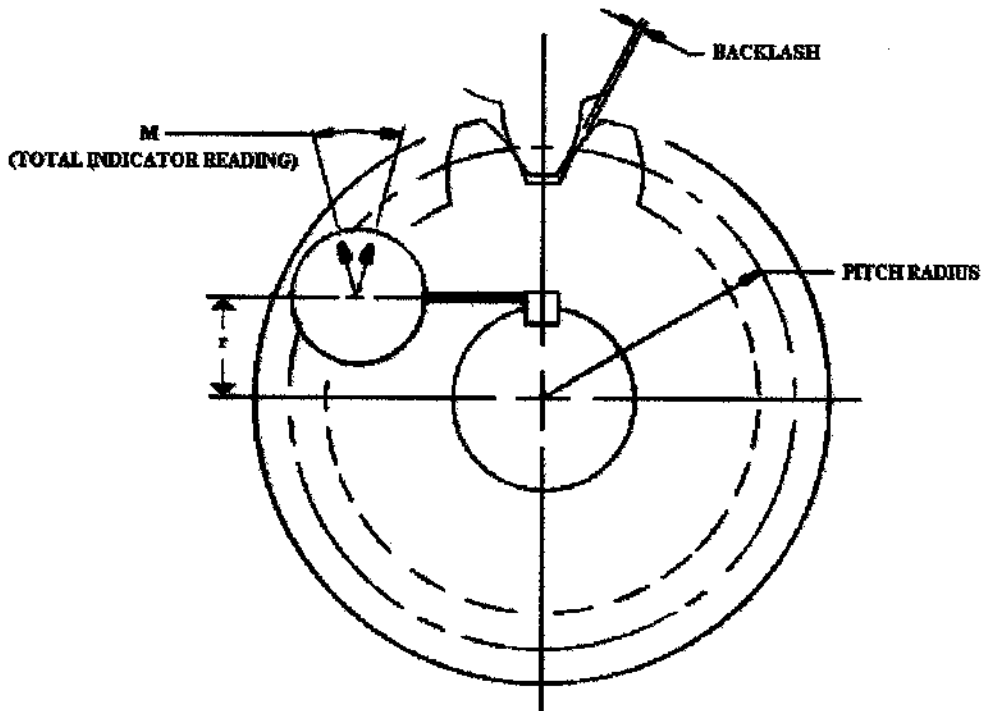

FIGURE 2
- 7.4 Measure the distance from the center of the shaft (500) to the contact point between the indicator and the key (see Figure 2). This is the "r" value in the equation in step 7.6.